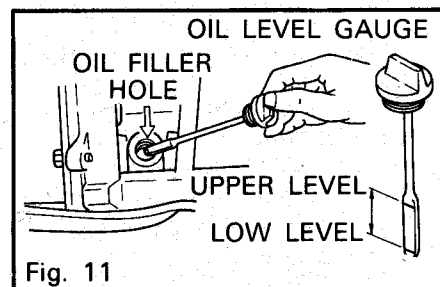

Fig. 11
## ③ Oil Level Checks (Fig. 11)